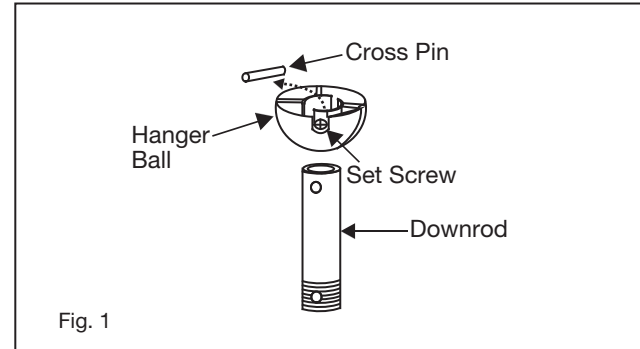

Fig. 1
- 1 Remove ball from downrod by loosening set screw in the side of the ball. Slide ball down and remove ball pin; remove ball. (Fig. 1)